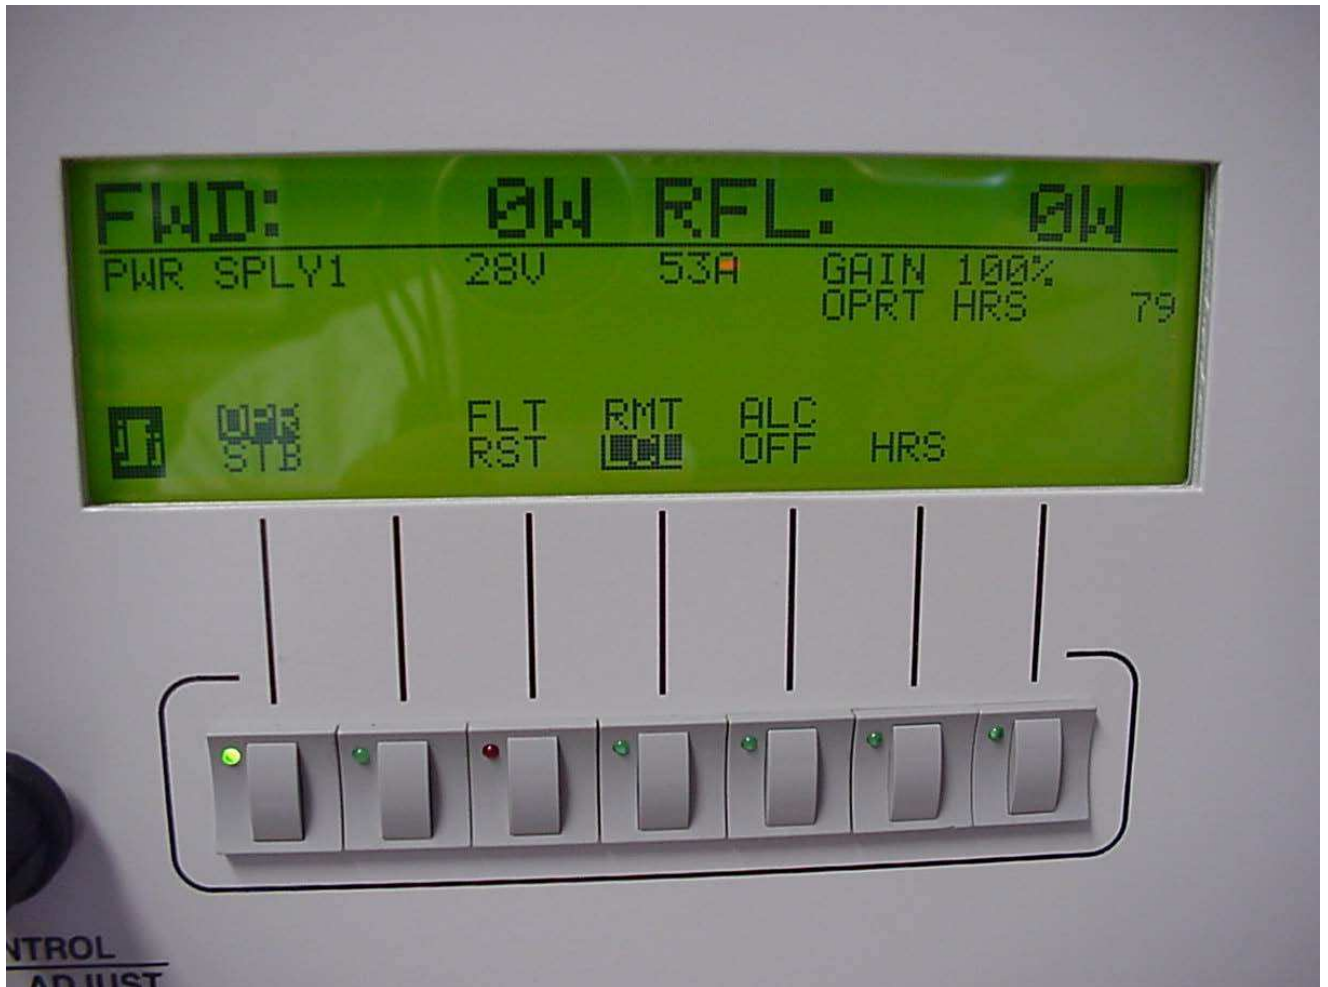

FIGURE 6.0 – TURNING ON THE AMPLIFIER (Typical)
1. From the MAIN MENU in Figure 6.0, press the button located under the Operate/Standby (OPR/STB) indication on the display. Place the unit in Operate (OPR) mode. At this mode the AMPLIFIER will be turned ON.